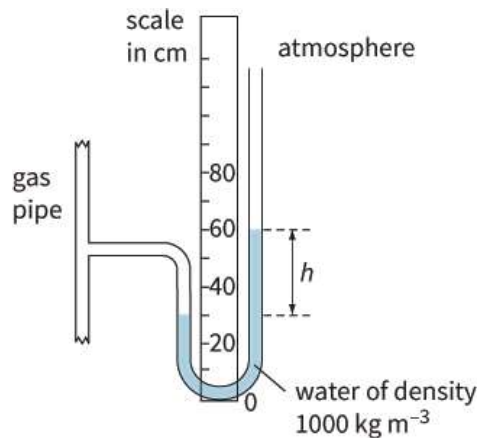

Figure 7.3: For Worked example 1.
- 1** Figure 7.3 shows a manometer used to measure the pressure of a gas supply. Calculate the pressure difference between the gas inside the pipe and atmospheric pressure.